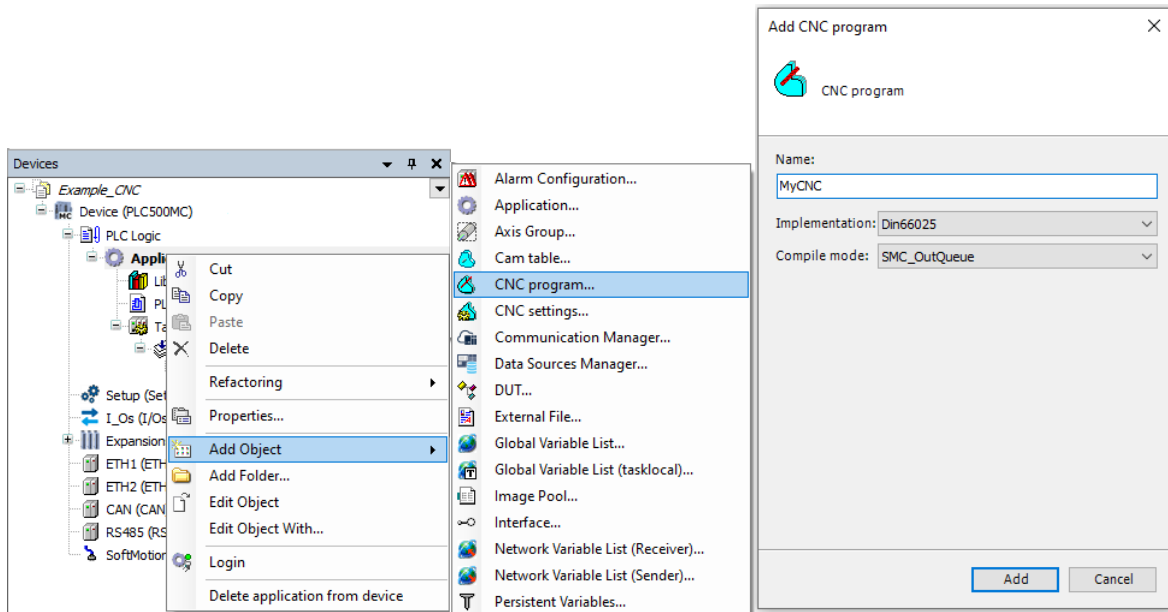

Figure 5.20: Creating a CNC program.
- In the opened dialog, set it as shown in Figure 5.20.